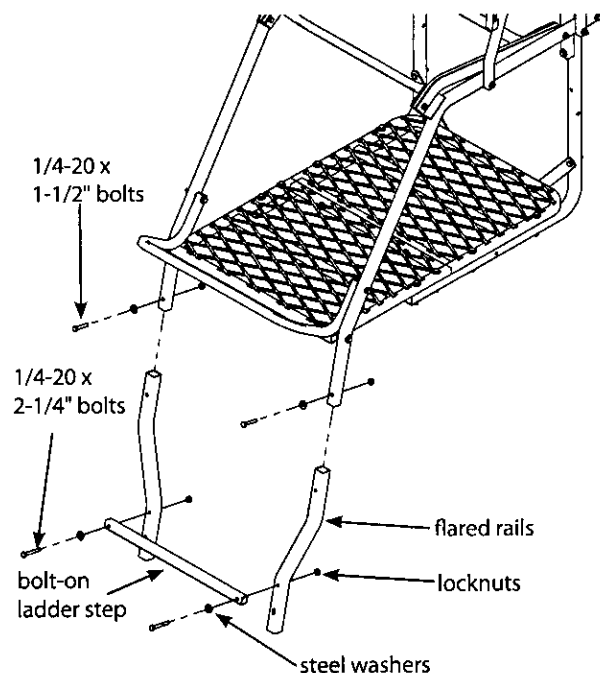

Figure 9
11. Insert the two side rails into the flared rails (410054). Secure using (2) provided 1/4-20 x 1-1/2" bolts, locknuts and steel washers. **SEE FIGURE 9.**
12. Attach the bolt-on ladder step (410034) to the front side of flared rails using (2) provided 1/4-20 x 2-1/4" bolts, locknuts and steel washers. **SEE FIGURE 9.**